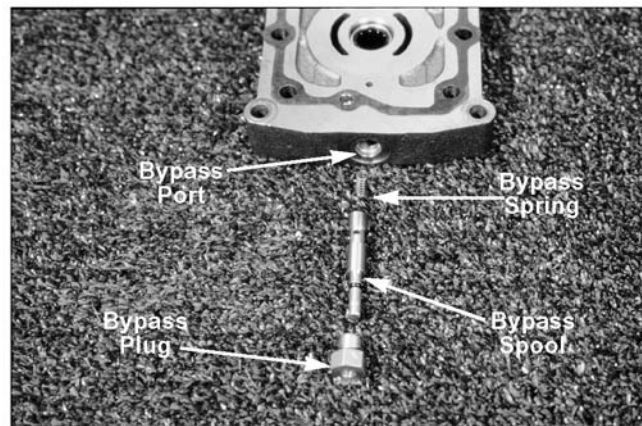

Figure 5-20.
- D. Bypass port. See Figure 5-20.